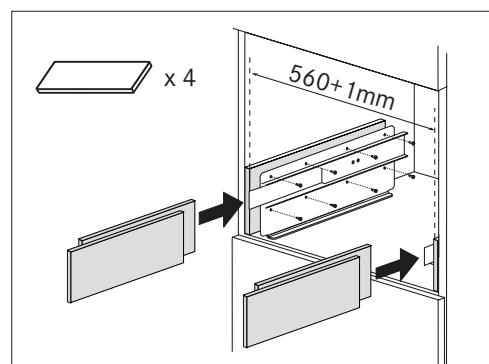

Fig. 7
- ▶ If necessary, correct alignment of the appliance by positioning the spacers supplied under or at the sides of the support (Fig. 7).